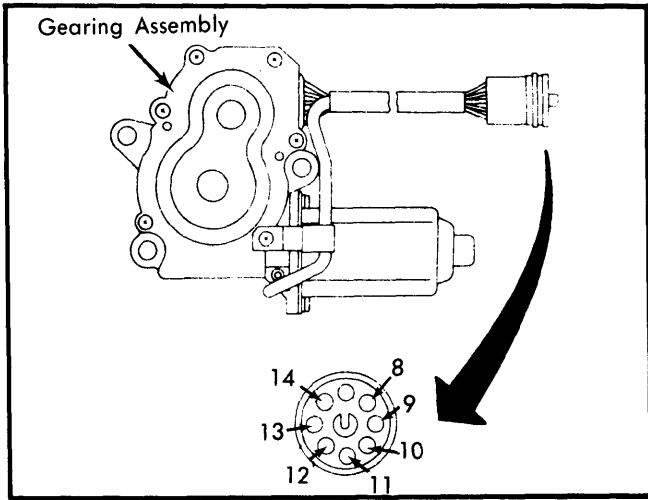

Fig. 11 Gearing Assembly Terminal Test Points
**Gearing Assembly** — 1) With positive battery lead connected to assembly terminal 13, and negative lead to terminal 14, the gearing assembly motor should run. See Fig. 11.